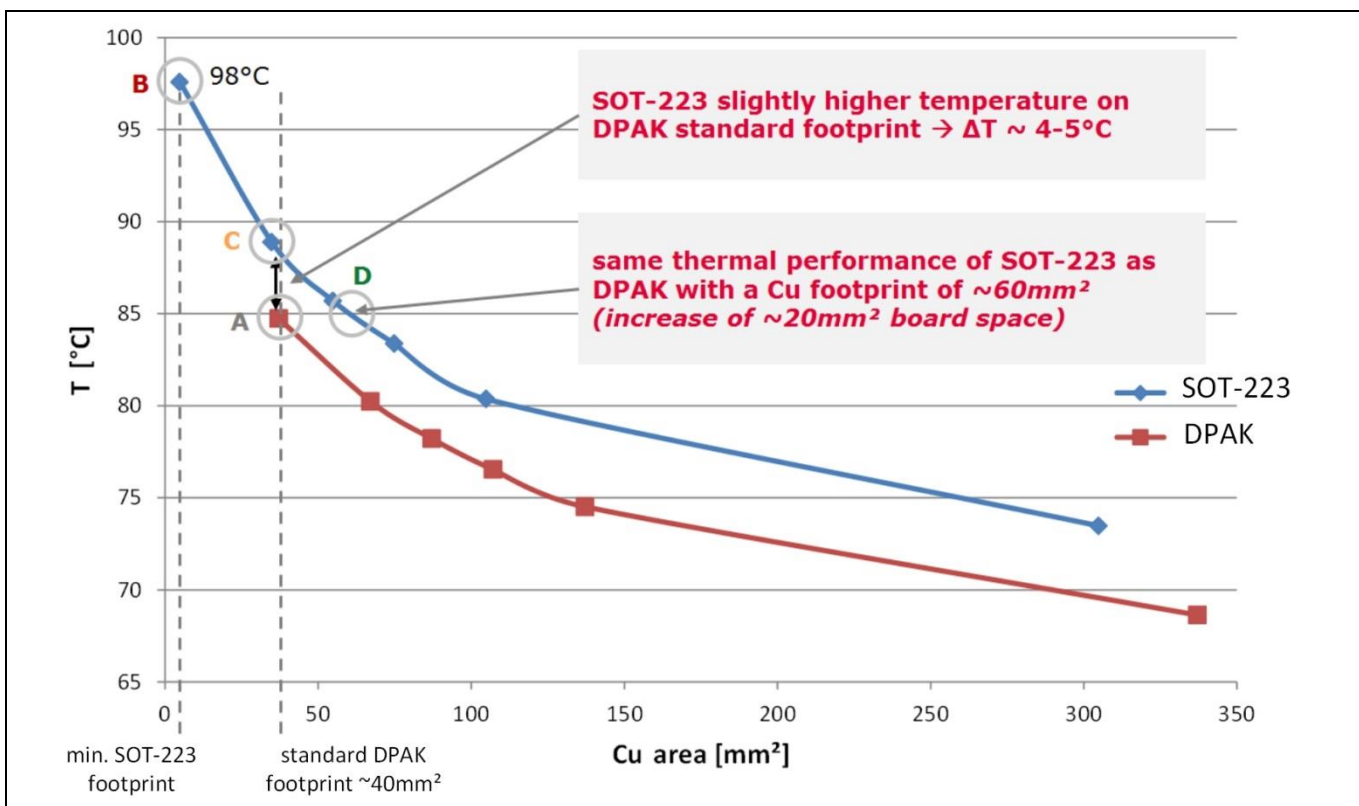

Figure 3 Thermal simulation of junction temperature @250 mW and ambient temperature of 55°C
This leads to the conclusion that a SOT-223 package can only be used as a plug and play replacement if the overall power losses (switching losses and conduction losses) of the MOSFET do not exceed 300 mW and by accepting a slightly higher case temperature. If the power losses exceed this value, an additional copper area (connected to the drain pin (D)) needs to be included on the PCB (printed circuit board). Figure 3 below shows the thermal dependency of DPAK and SOT-223 packages on the copper area around the drain connection.